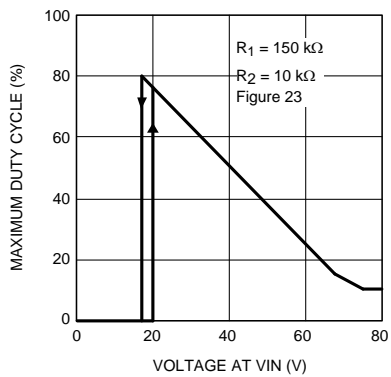

Figure 10. Maximum Duty Cycle vs. VIN (Figure 24)
**Line Voltage Maximum Duty Cycle.** The voltage at the UVLO pin, normally proportional to the voltage at  $V_{PWR}$ , further limits the maximum duty cycle at high input voltages. Referring to Figure 10, when the UVLO pin is below 1.25V, the outputs are disabled. At UVLO = 1.25V the maximum allowed duty cycle is 80% (or less if limited by the DCL resistor). As the UVLO pin voltage increases with  $V_{PWR}$ , the maximum duty cycle decreases, reaching a minimum of 10% at  $\approx 4.5V$ . Referring to the UVLO voltage, after passing through an inverting gain stage, is compared to the Ramp1 and Ramp2 signals generated by the oscillator. The output of these comparators are the MaxDC1 and MaxDC2 timing signals. These signals are provided to the two 4-input AND gates which limit the PWM pulses delivered to the output drivers.